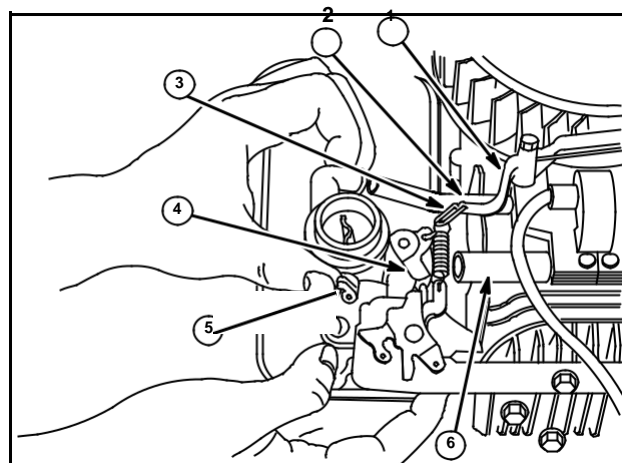

Fig. 51
2. With governor link (3) hooked to governor blade (1), connect link to throttle (4) and slip carburetor into place.
4. Hold choke lever (5) as shown in Fig. 51, so it does not catch on control plate.